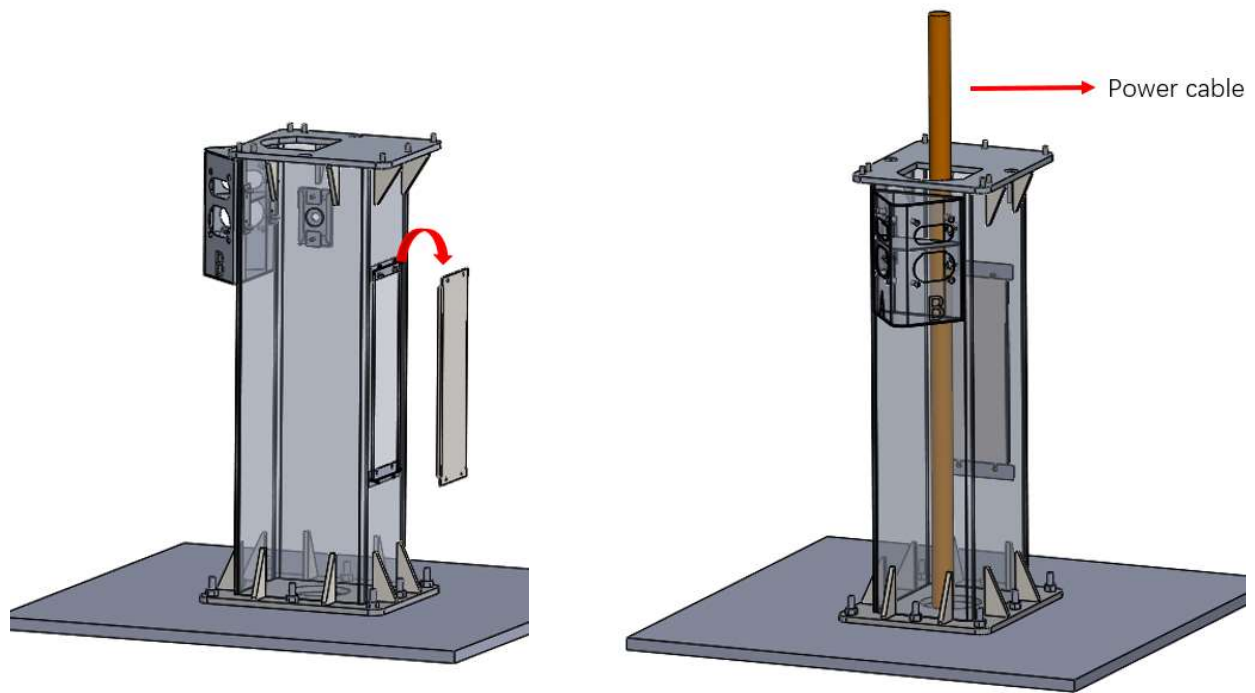

Figure 29 Cable incoming diagram
(2) Remove the mounting plate behind the pole, and insert the power cable from the foundation into the pole through the hole at the pole bottom, then insert the cable through the hole at the upper part of the pole, as shown in Figure 29.